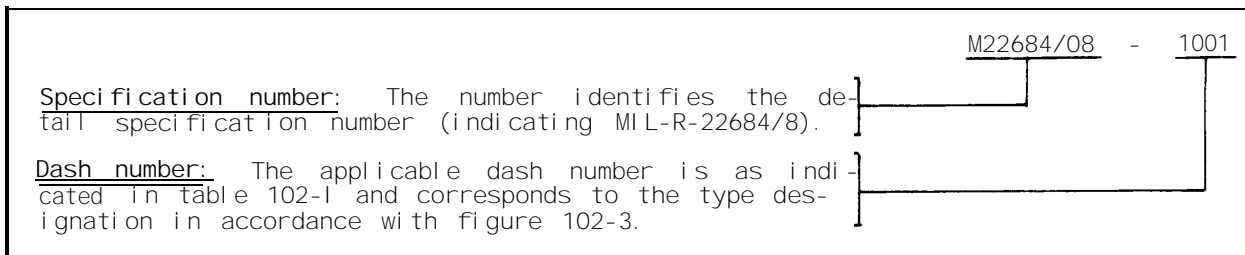

FIGURE 102-2. PIN example.
3. ITEM IDENTIFICATION (see figures 102-2 through 102-4).
3.1 Part or Identifying Number (PIN). The PIN is used for identifying the resistor as shown on figure 102-2.